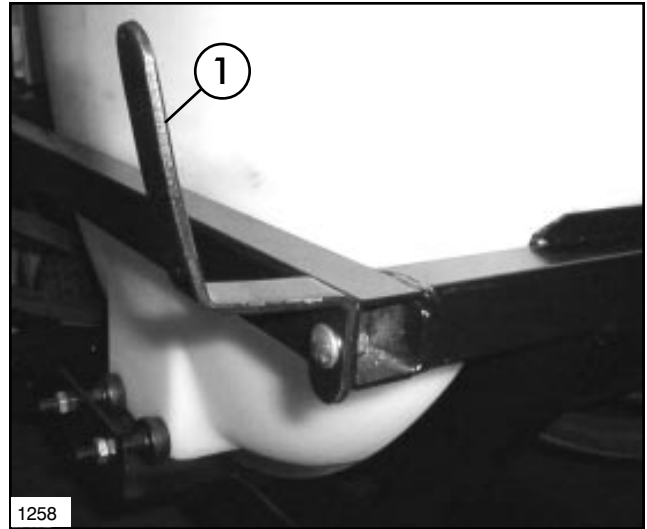

FIG. 6
3. Apply thread sealer and install (1) 45° Elbow and 1-1/4" Hose Barb into the 1-1/4" Ball Valve.
4. Apply thread sealer and install (1) 90° Hose Barb into the outlet port of the Suction Strainer.
5. Secure Suction Strainer to Strainer Bracket using (1) hose clamp.
7. Connect Suction Strainer to the 1" x 90° Hose Barb in top of Pump with 1" x 24" suction hose. Secure with (2) hose clamps.
8. Attach (1) Hose Hook to the R.H. and L.H. rear corners of Saddle Assembly. See FIG. 6.